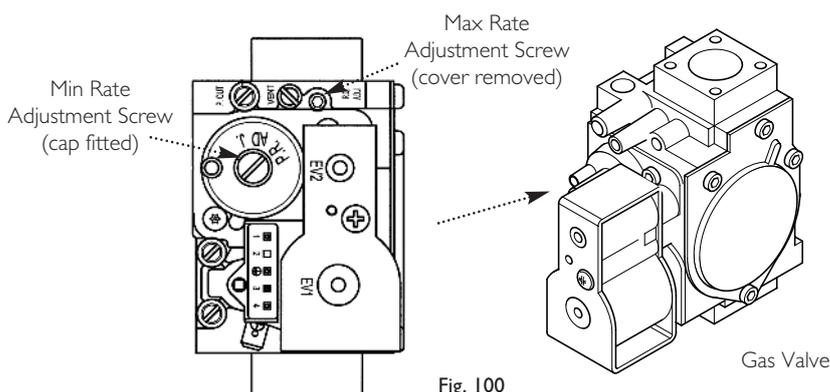

Fig. 100
8. It is possible to alter the CO₂ by adjustment of the gas valve. Remove the plastic cover from the 'Max Rate' adjustment screw. At maximum rate the 'Max. Rate' adjustment screw should be turned, using a suitable hexagon key, until the correct reading is obtained (Fig. 100). Turning clockwise will reduce the CO₂. Anticlockwise will increase the CO₂.
10. With the boiler on minimum, the 'Min. Rate' adjustment screw must be altered, using a suitable hexagon key, after removing the cap (Fig. 100). Turning anti-clockwise will reduce the CO₂. Clockwise will increase the CO₂. If the CO₂ is reset at either boiler rate it must be rechecked at the other rate and also adjusted if required.